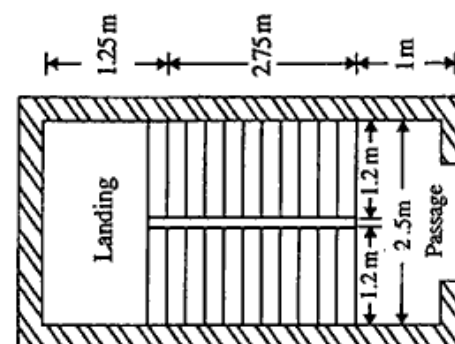

Figure 1
b) Design a dog-legged stair (Figure 1) for a building in which the vertical distance between floors is 3.6 m. The stair hall measures 2.5m × 5m. The live load may be taken as 2500 N/m². Use M 20 concrete and Fe 415 steel bars. 7